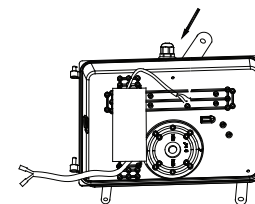

Figure 2
- Choose an appropriate connection hole according to your requirements. Loosen the plug, and then tie the waterproof connector from the accessories; rotate the three mounting kits to the proper angle. (Figure 2)